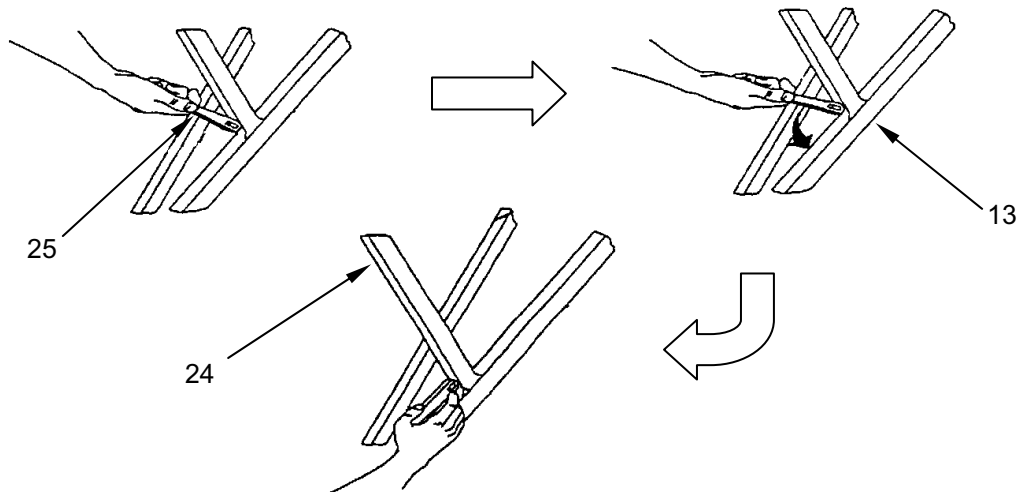

Figure 10. Purlin Assembly Diagonal Brace Detail.
10. Lock purlin diagonal brace (**Figure 10, Item 24**) by pressing brace shackle (**Figure 10, Item 25**) down towards arch assembly (**Figure 10, Item 13**) until it is secure.
11. Install remaining purlin diagonal brace (**Figure 10, Item 24**) repeating steps 7 through 10 above.